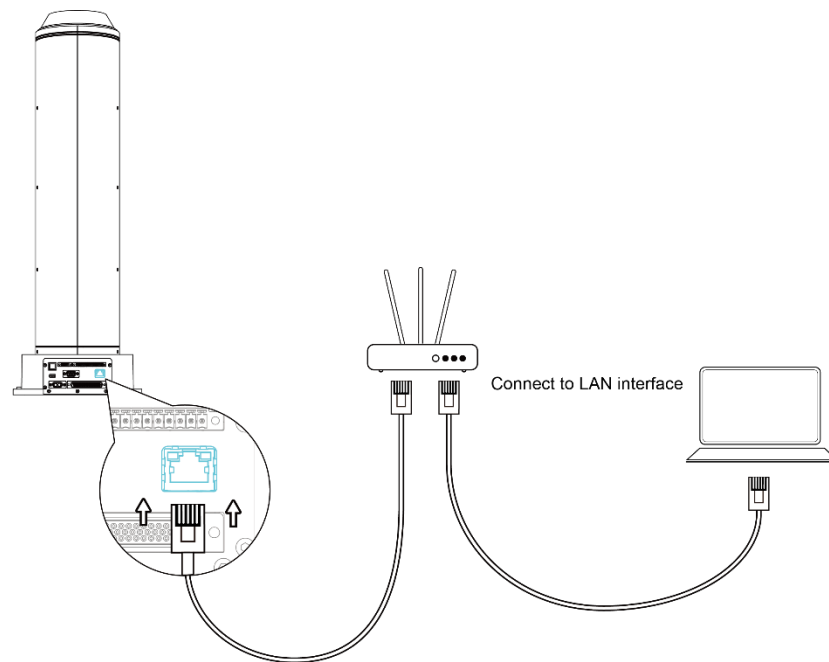

Figure 5.17 Connect via router
- Step 2** Connect the other end of the network cable to the router which also connects the PC, as shown in Figure 5.17.